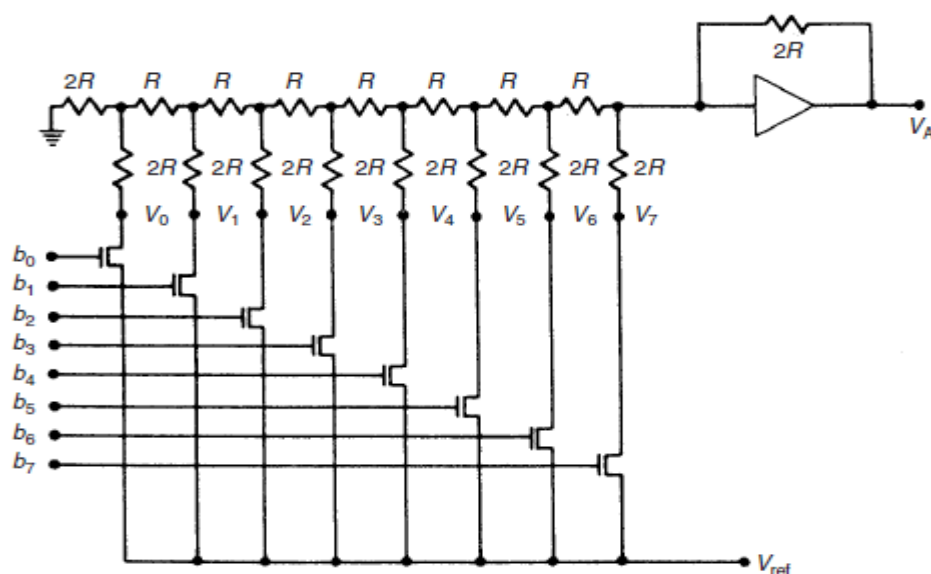

Figure 16 – A digital to analogue converter (Morris, 2003)
i) Conversion – As discussed in Task 4b, there is often a requirement to convert a signal before it can be used in another process. As well as ADC, Digital to analogue (D/A) conversion is required for certain applications. For example, where a digital signal has to be presented to an analogue control actuator or display device. A common form of D/A converter is shown in figure 16 and consists of a resistor ladder network on the input to an operational amplifier. ✓